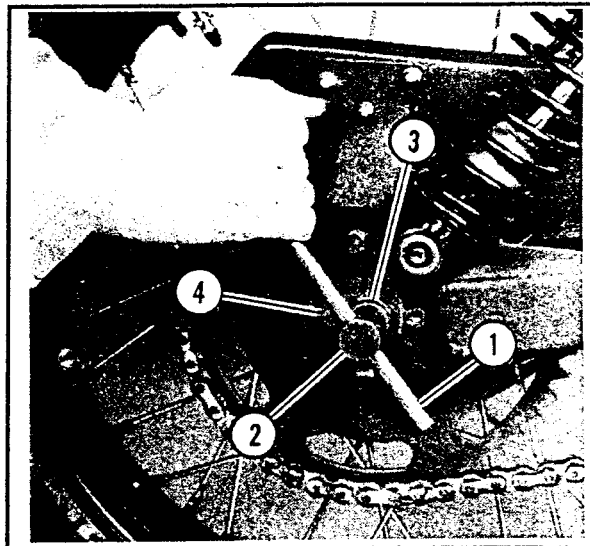

Figure 5-52. Remove Rear Axle
2. See Figure 5-52. Remove axle nut (2), flat washer (3), and left chain tension adjustment cam (4).
3. Use a soft-faced mallet and drive axle (5) toward right side of vehicle until end of axle is flush with swing arm (6).
4. See Figure 5-52. Using bar (1) from tool kit, remove axle (2), flat washer (3), and right chain tension adjustment cam (4).
5. See Figure 5-52. Install right chain tension adjustment cam (4), flat washer (3), and axle (2). Support tire and wheel with one hand while tapping axle into hub with a soft-faced mallet.